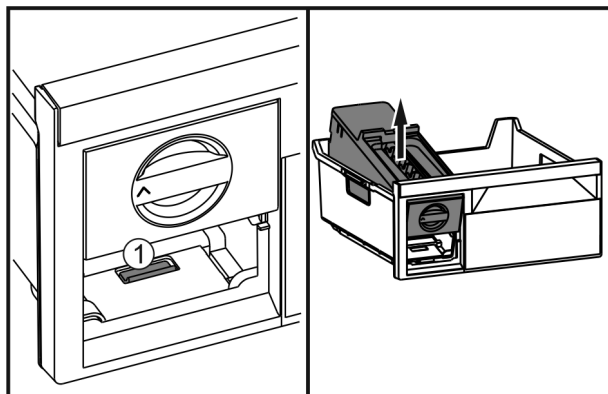

Fig. 37
- ▶ Press the lug Fig. 37 (1), lift up the EasyTwist-Ice at the back and take it out of the freezer drawer.